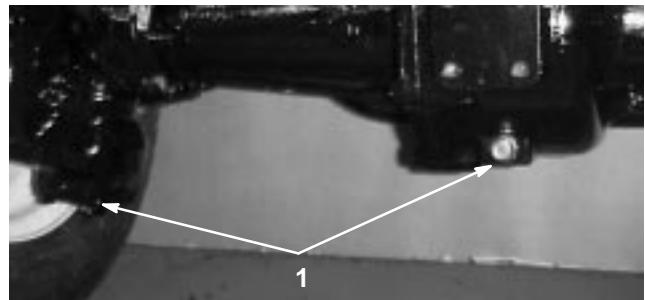

Figure 50
2. Clean the area around the 3 drain plugs, 1 on each end and 1 in the center (Fig. 50).
3. Remove the (3) oil level check plugs and main axle vent cap to ease in draining of the oil.